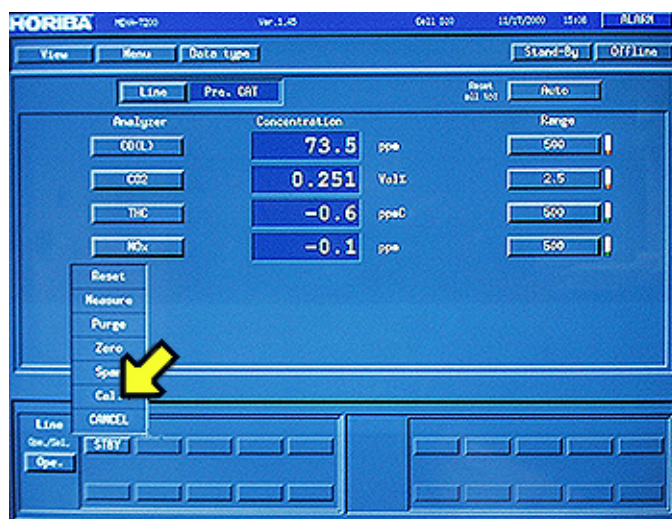

Figure 6
- 109 From the selections that appear, select "Cal." See the arrow in Figure 6.